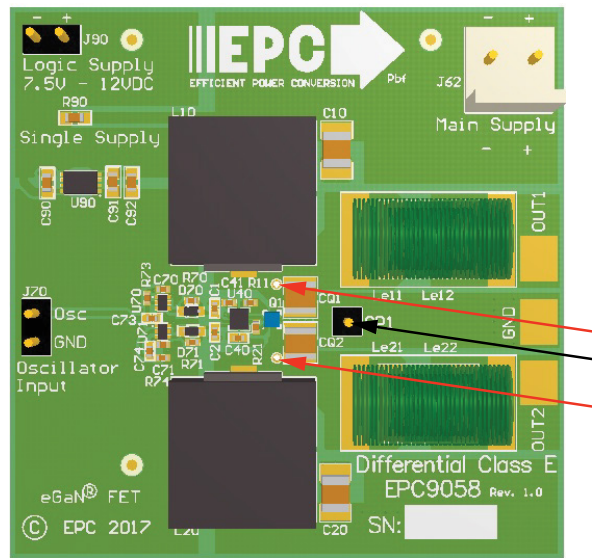

Figure 6: Proper measurement of the drain voltage.
(See figure 6 of the EPC2110 datasheet)
**NOTE.** When measuring the high frequency content switch-node, care must be taken to avoid long ground leads. An oscilloscope probe connection (preferred method) has been built into the board to simplify the measurement of the Drain-Source Voltage (shown in figure 6). The choice of oscilloscope probe needs to consider tip capacitance where this will appear in parallel with the shunt capacitance thereby altering the operating point of the amplifier.